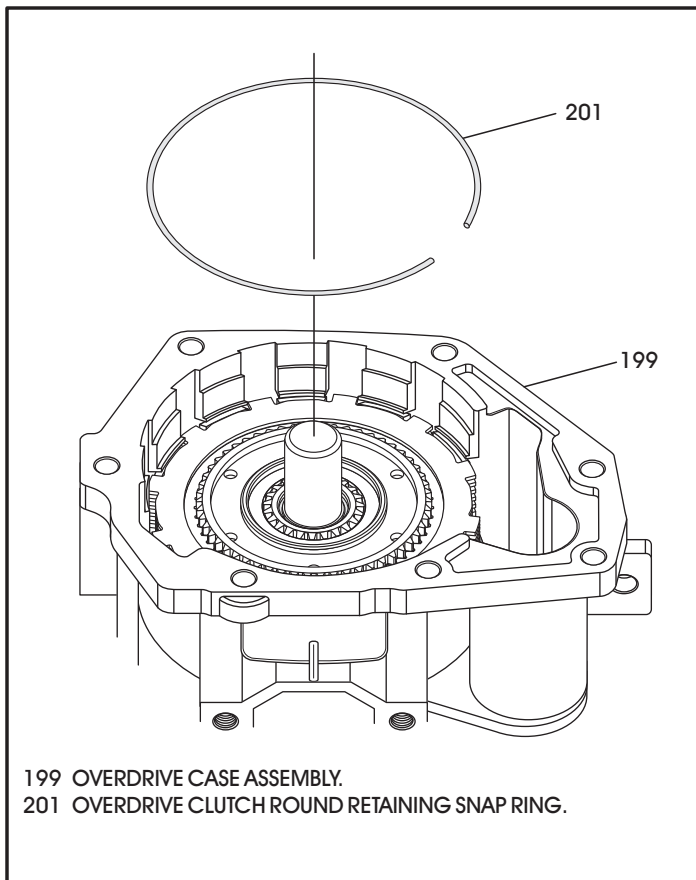

Figure 200
57. Install the round "wire type" snap ring on top of the last steel plate, as shown in Figure 200.